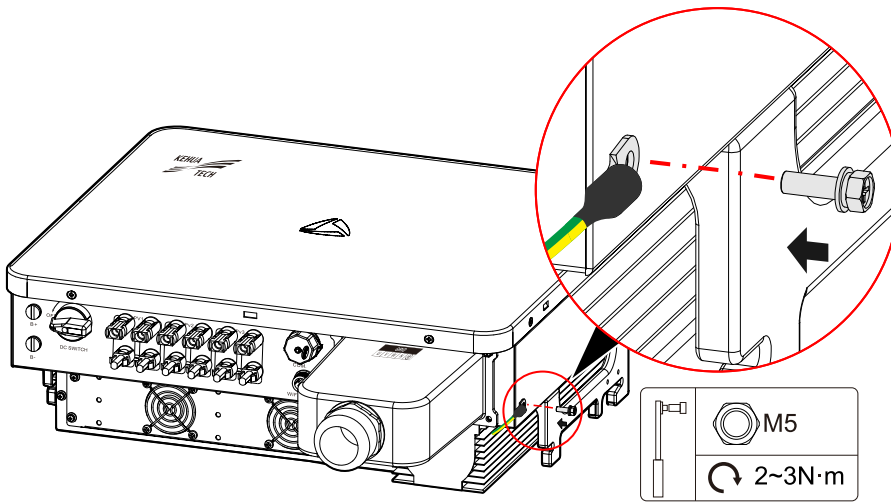

Figure3-14 External grounding connection
Step 2 Connect the crimped grounding wire to the external grounding terminal at the side of the inverter by equipped stainless steel combination bolt M5*12, as shown in Figure3-14.